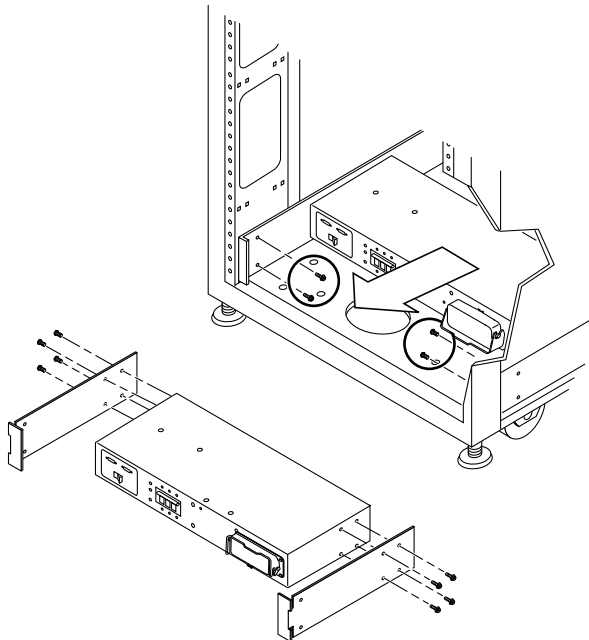

FIGURE 4-7 Removing the Power Sequencer
2. **Disconnect the key switch adapter cable from the mating power supply connector at the back of the power sequencer (FIGURE 4-7).**
1. Slide the power sequencer into the storage system (FIGURE 4-7).